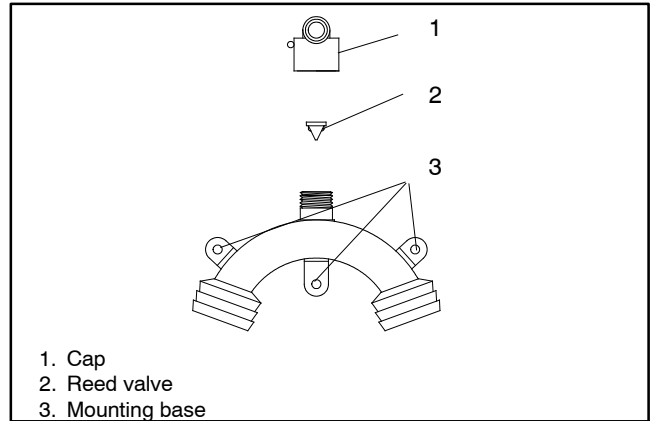

Figure 3-9 Siphon Break
2. Remove the retaining cap and remove the reed valve for inspection. See Figure 3-9.
6. Install the reed valve into the mounting base with the valve downward. See Figure 3-9, item 2.